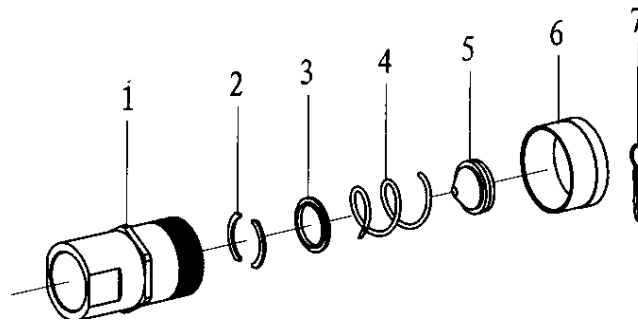

Fig. 7-11
11. Quick coupling (1 7/8-12UN) (Fig7-11, Table 11)